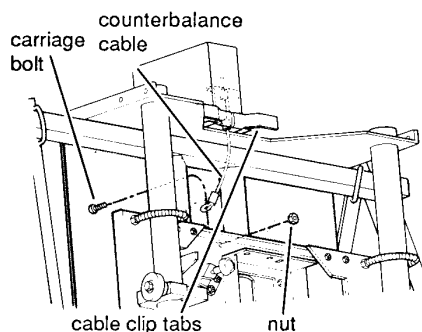

Figure 4: Attaching the Counterbalance Cable
5. Bend the cable clip tabs forward by hand, so they look like the ones in Figure 4.